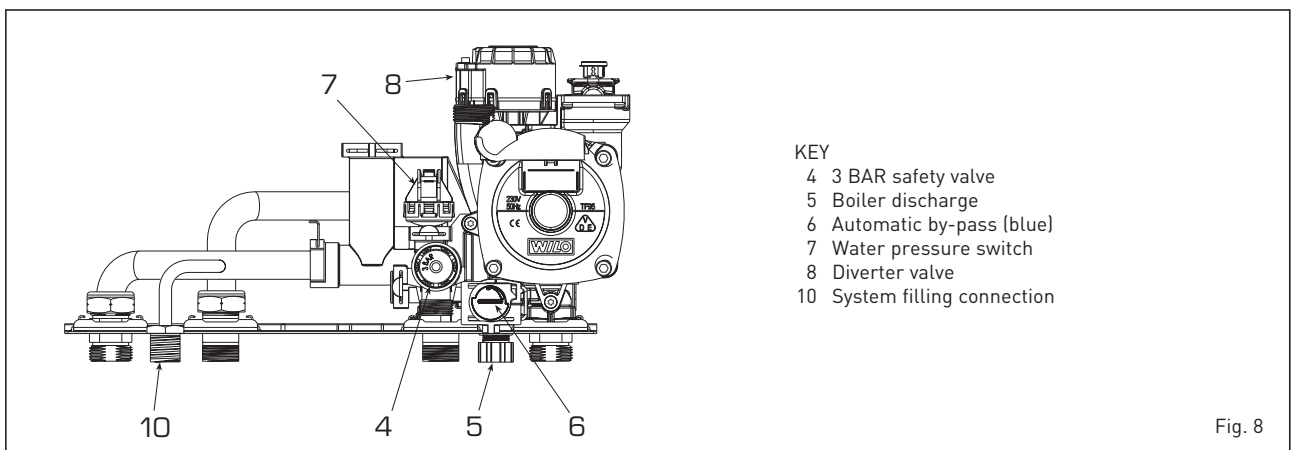

Fig. 8
NB: In the SYSTEM version the filling is done by the system filling connection (item 10 fig. 8).
Use the drain vent to empty the system (item 5 fig. 8).